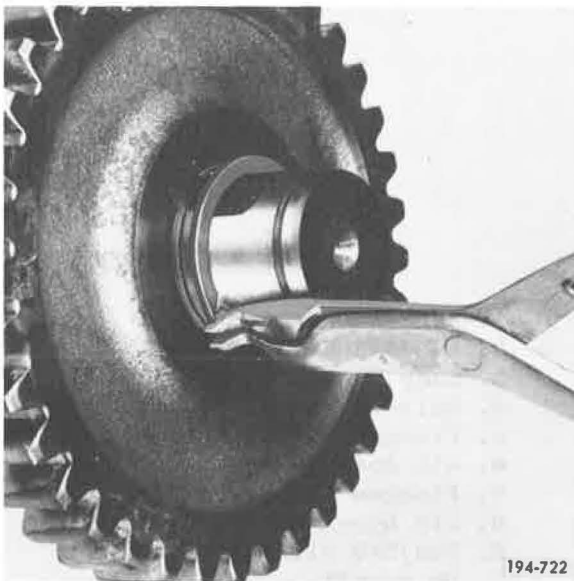

Figure 113. Removing Snap Ring
3. Remove gear retaining snap ring, using snap ring pliers J-25445, or equivalent. See Figure 113.